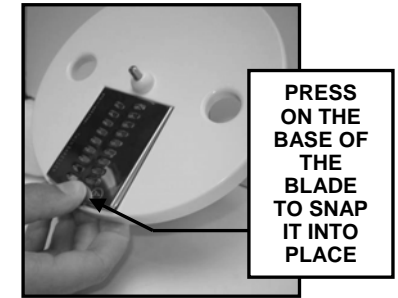

Fig. 6
- Once in place, use thumb to press on the base of the blade to snap it into place. (Fig. 6) Ensure that the blade holder is securely in place before continuing.